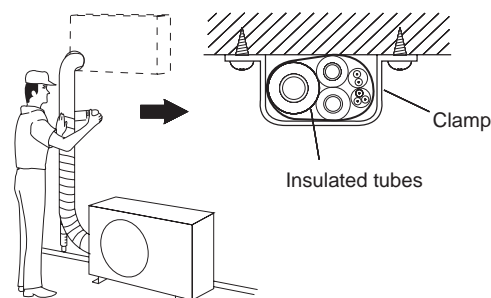

Fig. 18a
- (1) At this time, the 2 refrigerant tubes (and electrical wire if local codes permit) should be taped together with armoring tape. The drain hose may also be included and taped together as 1 bundle with the tubing.
- (2) Wrap the armoring tape from the bottom of the outdoor unit to the top of the tubing where it enters the wall. As you wrap the tubing, overlap half of each previous tape turn. (Fig. 18a)
- (3) Clamp the tubing bundle to the wall, using 1 clamp approx. every 120 cm.